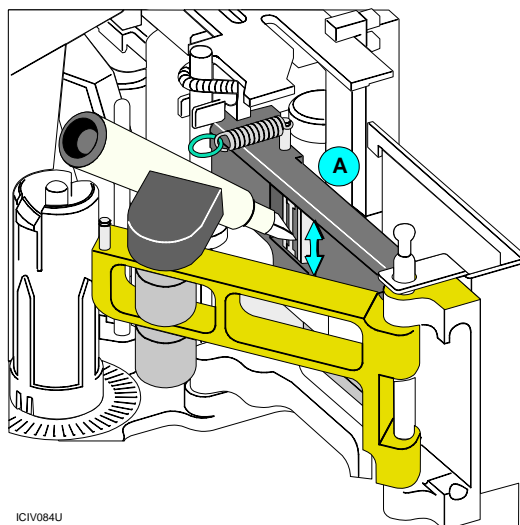

Figure 7-10: Gently clean the magnetic stripe head
- 8 Hold a finger behind the magnetic stripe head to support it (A in Figure 7-10). Using gentle pressure, move the cleaning pen back and forth on the silver surface of the magnetic stripe head.